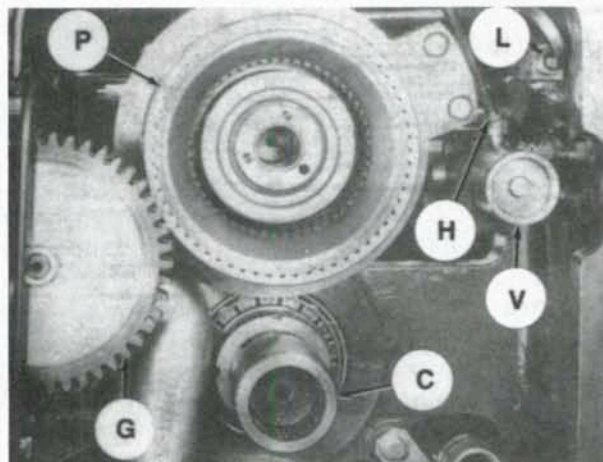
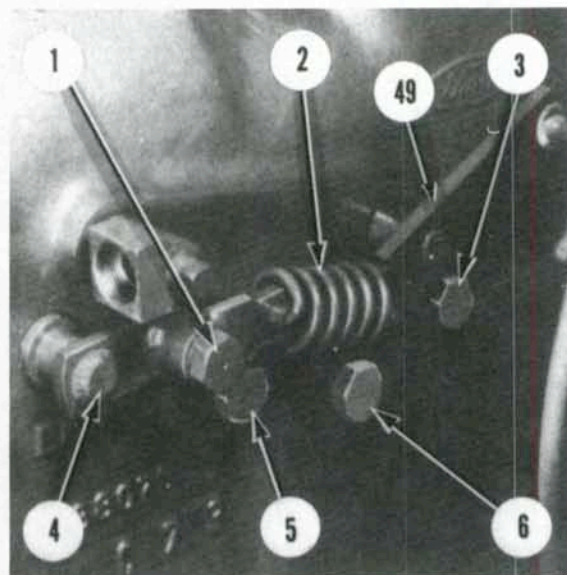

Fig. 256—Pto clutch assembly is located in front of rear axle center housing.
Fig. 257—View of pto shift mechanism located on left side of rear axle center housing.
connect pto lubrication line (L—Fig. 256) from fitting on wall of center housing. Disconnect pto pressure line (H) from control valve (V). Remove shoulder bolt (1—Fig. 257), over-center spring (2), locating pin (6) and stop pin (3) from pto control linkage. Turn control valve lever (49) so shift fork will be released from control valve spool.
center housing while supporting clutch assembly. Turn and slide pto clutch (P—Fig. 256) and control valve forward past the hydraulic pump gear (G) and out center housing opening.
To reinstall pto clutch assembly, reverse removal procedure. Be sure that clutch assembly is pushed fully rearward on pto upper shaft. Rotate the assembly until control valve spool engages shift arm. If hydraulic lift cover was not removed, a mirror and long wire may be needed to aid in alignment of valve spool with shift arm. Finger tighten locating pin (6—Fig. 257), connect pto lube line (L—Fig. 256) and pressure supply line (H), then tighten locating pin to a torque of 82 ft.-lbs. (110 N·m). On TW-35 tractor, tighten pto clutch upper shaft bearing retainer cap screws to a torque of 80 ft.-lbs. (108 N·m).